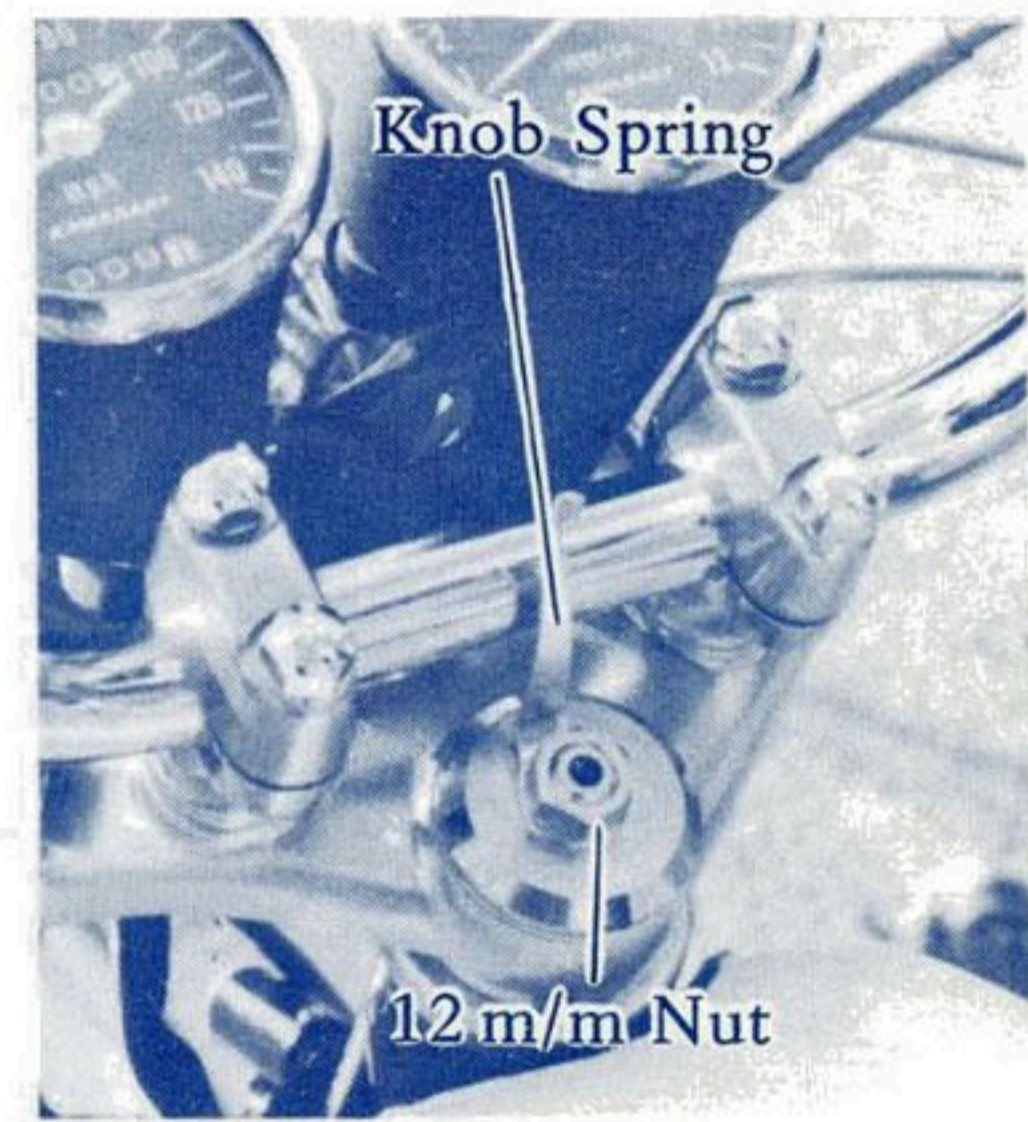

Fig. 15
1. Fit steering damper knob spring with 12m/m nut as shown in fig. 15.